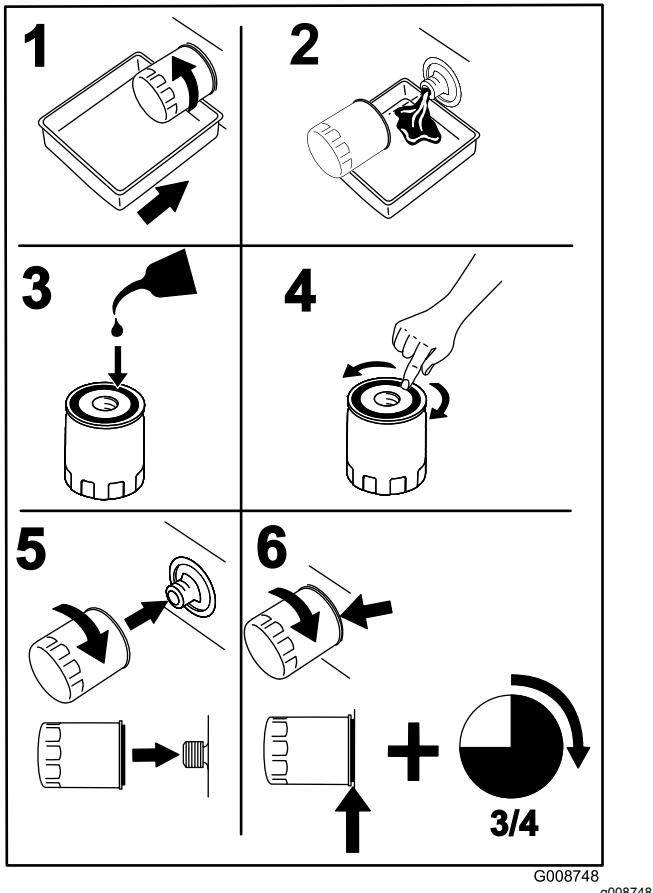

Figure 71
- Place a drain pan under the manifold filter (Figure 71).